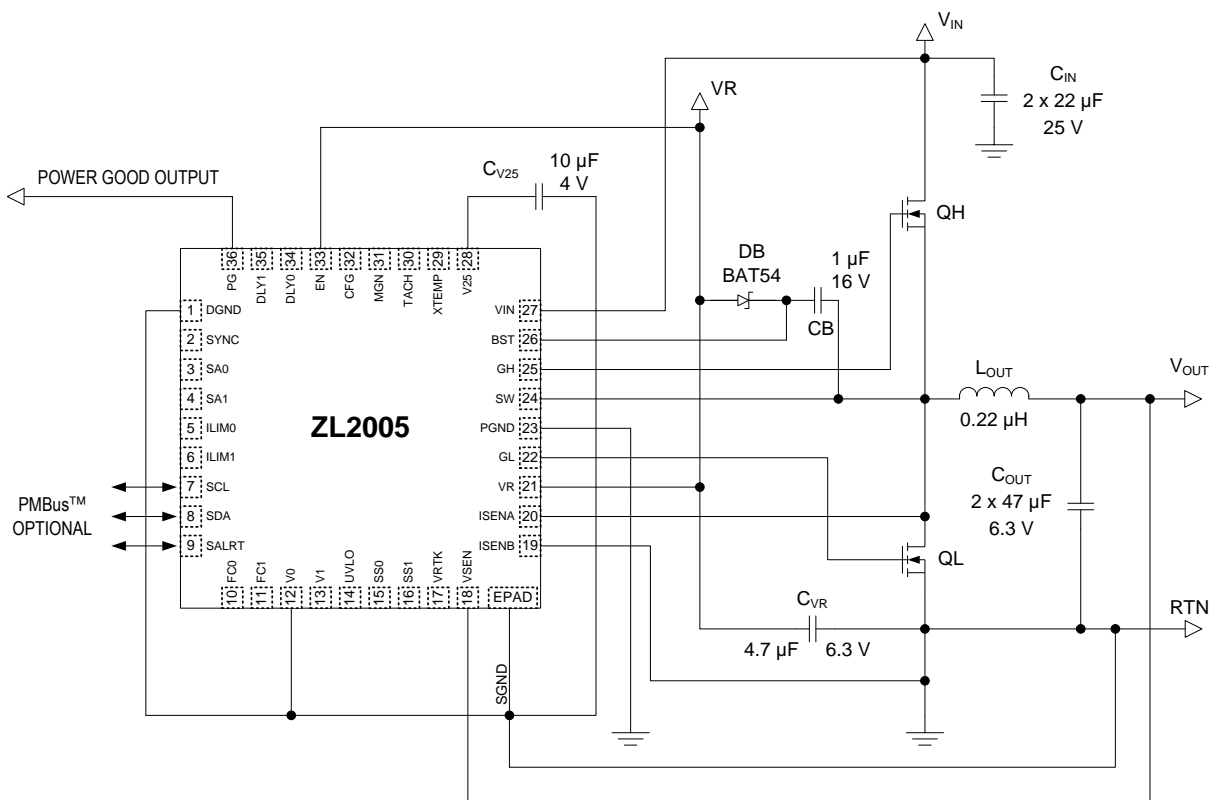

Figure 1. Typical Application Circuit
Zilker Labs’ power management and conversion ICs are synchronous voltage-mode buck converters based on the patented Digital-DC™ technology. The buck converter is used to convert a higher, often loosely regulated voltage to a lower, tightly regulated voltage. The buck converter uses a MOSFET in the “freewheeling” or bottom switch location to increase efficiency. The operation of a buck converter is illustrated in Figure 1.
The buck converter shown in Figure 1 is a well-known switching power supply topology. It operates by turning on and off the control MOSFET (QH) at a high frequency. The amount of time the QH is on as a fraction of the total switching period is known as the duty cycle *D*, which is described by the following equation where *T_{on}* is time on and *T_{sw}* is the switching period.